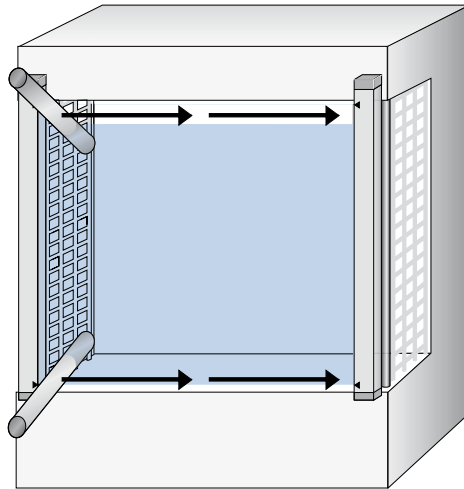

Figure 18: Test rod check: Step 2
3. Then, guide the test rod along the edges of the area to be protected as indicated by the arrow, see figure 18.